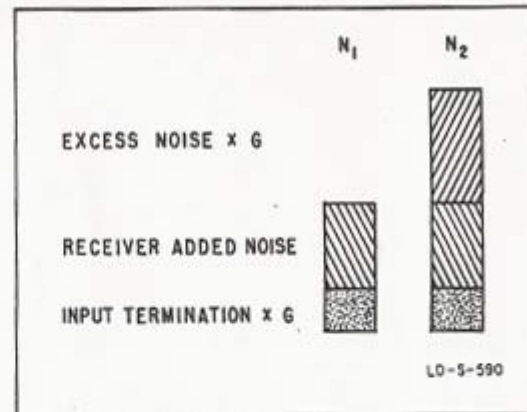

Figure 4. Representation of total noise power output for the “twice-power” method of manual noise figure measurement.
Figure 4 illustrates this condition, in which the output noise power contributed by the excess noise source exactly equals the sum of the amplified input termination noise plus the receiver noise contribution. Since this excess noise ratio was adjusted with the attenuator to be equal to input termination noise plus receiver noise (thereby causing  $N_2 = 2 N_1$ ), from equation (5) it can be seen that the attenuated excess noise ratio is equal to the noise figure of the receiver. In the case of an argon source, it can be read as 15.2 db minus the attenuator setting (in db).